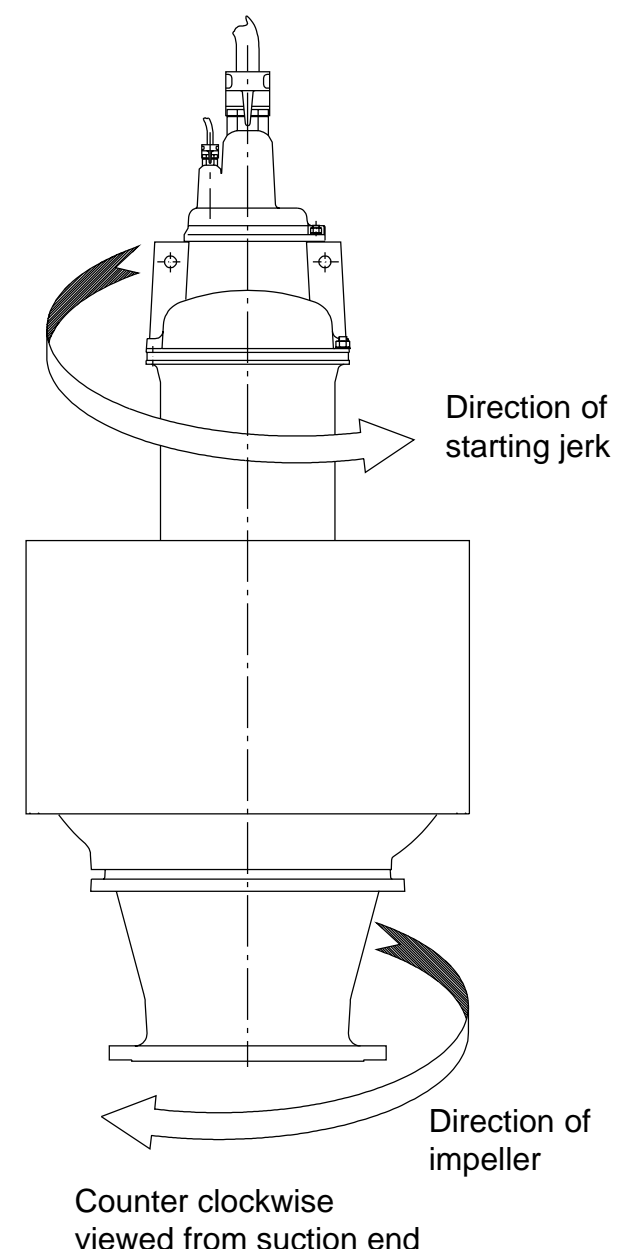

Fig. 4
- The **direction of rotation** is **correct** (Section 1.4.3, Fig. 4).
Before lowering the pump into the sump, make electrical connections as indicated in Section 1.6.2 and check the direction of rotation. This must be counter-clockwise viewed from suction end. Check impeller rotation by suspending pump from the lifting eyes, resting inclined on the floor, and start up for one second. The starting jerk should be counter-clockwise viewed from driving side (Fig. 4).